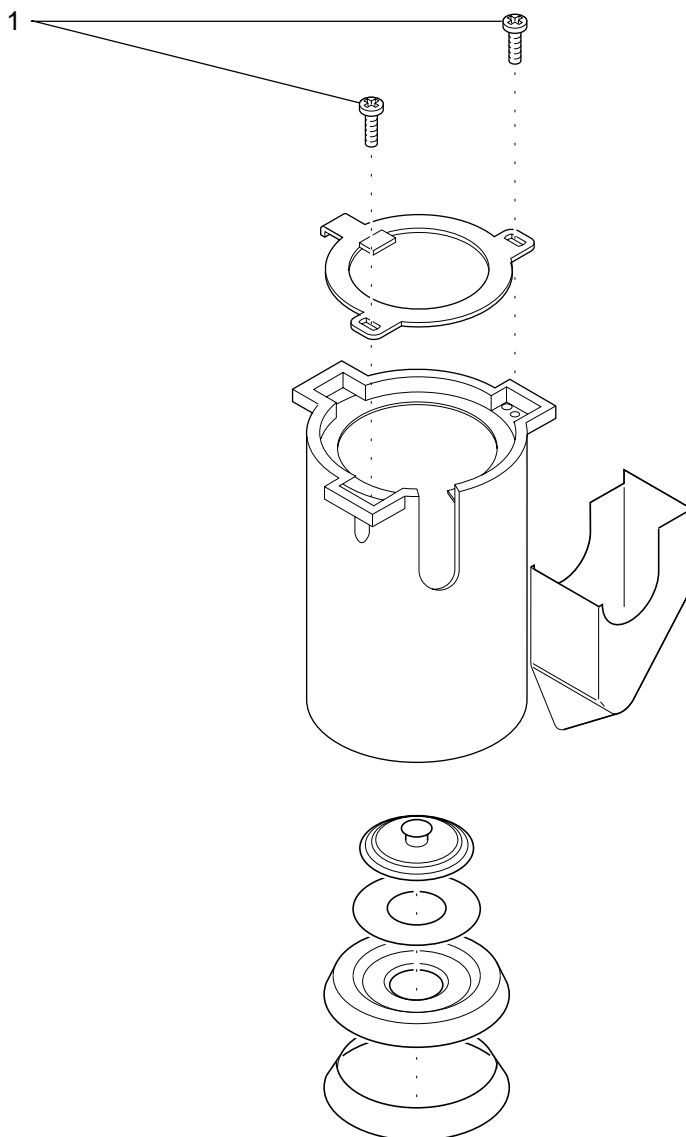

Fig. 1
new: **36006300 Ejot-PT-screw (1) (Fig.1)**
- The screws 09170516 will be replaced by the screws 36006300 (see Fig.1).